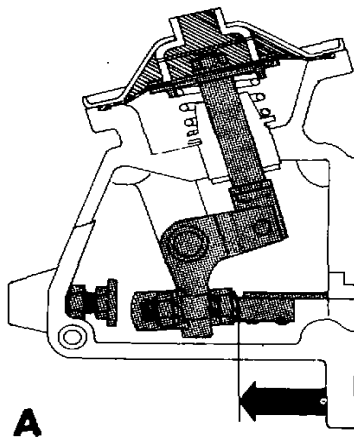
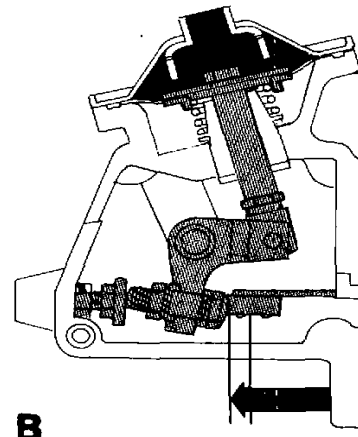
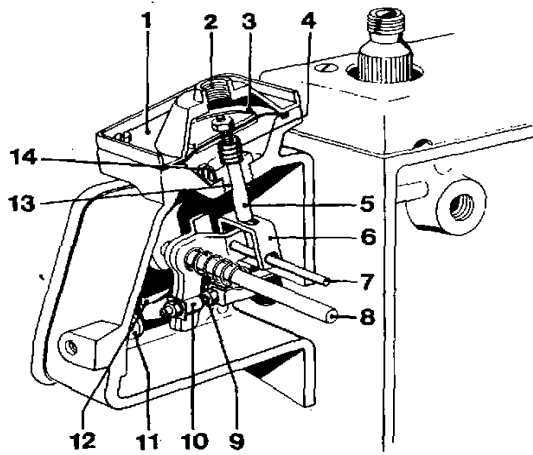

Fig. 119
Fig. 120
Fig. 121. Pressure-dependent full-load stop (70 series)
On TD60D and TD70G with RQV governor, and on TAMD60C and TAMD70E a pressure-dependent full-load stop (smoke limiter) is fitted. On TD60D and TAMD60C it is located on the centrifugal governor at the rear end of the injection pump (fig. 118). On other engines it is located at the front of the injection pump (fig. 121). Its function is to prevent exhaust smoke during fast acceleration from low speed by limiting the control rod stroke (fuel quantity), until the turbocharger gets sufficient amount of exhaust to give full air quantity.
When pressure conditions alter in the inlet manifold the diaphragm 3, fig. 121, is actuated. The diaphragm movement is transmitted via a link system to the angle lever (10), at the bottom section of which the adjusting screw for low max. quantity (9) is located. This screw limits the movement of the control rod at low charging pressure, fig. 119, "A". At high charging pressure the other end of the screw moves against the stop bolt (11) for high max. quantity, fig. 120, "B".
Figure text, figs. 119 and 120
On TD60D with RQV-governor and on TAMD60C the cold-start device is located in the centrifugal governor (under the pressure-dependent full-load stop) at the rear end of the injection pump (fig. 118). On engines of the 70 series with pressure dependent full-load stop the cold-start device is combined with this (fig. 121). Engagement takes place when the centre spindle (1, fig. 118 or 8, fig. 121) is drawn out after setting the key switch in running position and the control lever in max. position. The control rod travel is thereby increased, this resulting in more fuel being supplied. TD70G with RQV-governor can also be fitted with a cold-start device with electro-magnetic engagement as optional equipment.